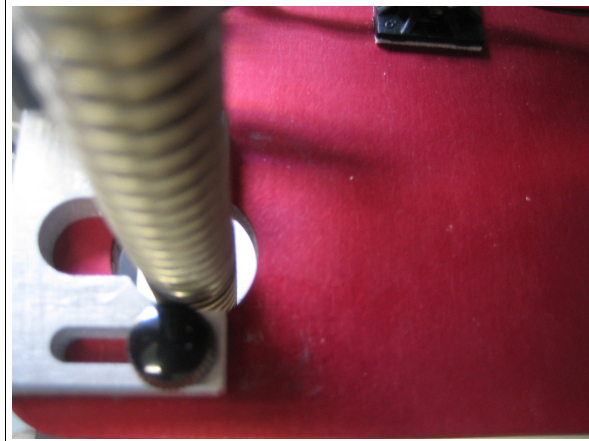

Figure 12: Spring Holder in Open Mode.
3. Slide the spring holders (component #29) on the plates carefully until the spring pops out on the shaft. See Figure 12.